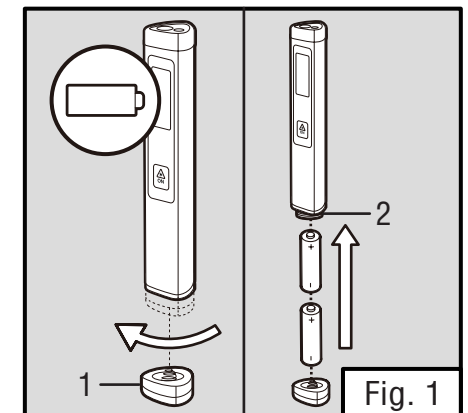

Fig. 1
INSTALLING BATTERIES (FIG. 1)
1. Twist off the end cap (Fig. 1 - 1).
2. Insert two AAA batteries into the battery compartment (Fig. 1 - 2). Follow the diagram inside to place the batteries in the correct orientation.